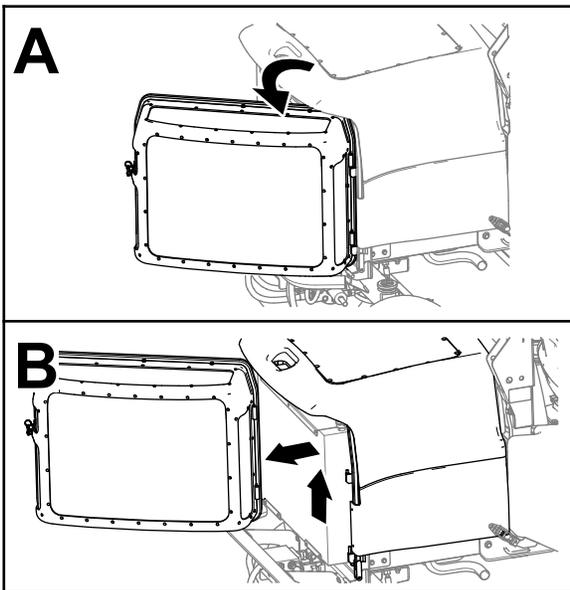

Figure 68
3. Unlatch the engine screen, open it, and lift it from the machine (Figure 68).